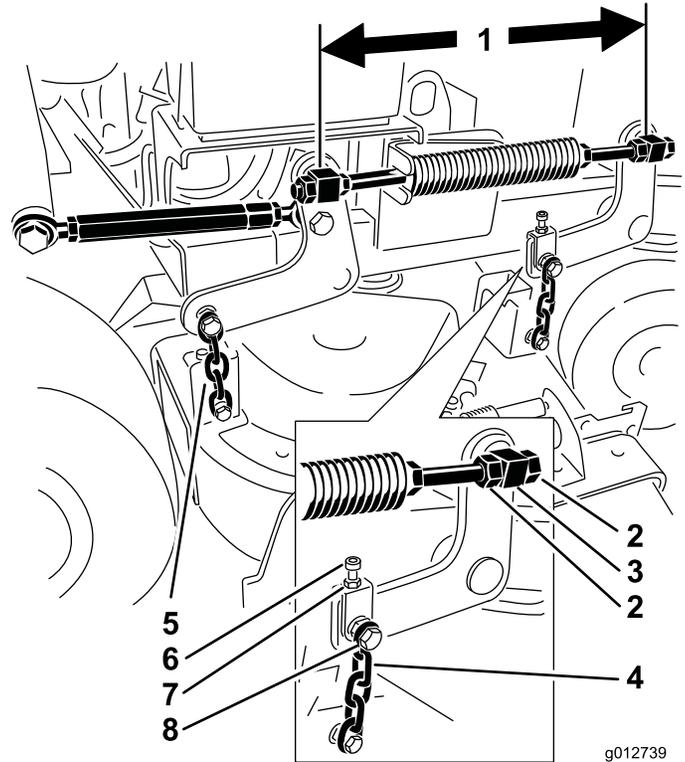

Figure 84
6. Check the distance between the swivels, measure at the center of the swivels (center-to-center length) on the threaded rod. This length needs to be 19-1/2 inches (49.5 cm) for 91 cm mower decks and 17-3/16 inches (43.7 cm) for 102 cm mower decks (Figure 84).
9. Use the jam nuts at the front swivel to adjust the length between front and rear swivels on that side (Figure 84).
11. Use the adjustment bolt to get equal tension on both front chains (Figure 84).
5. Loosen the nut on the upper chain bolt and the jam nut on the adjustment bolt (Figure 84).
- Use the adjustment bolt to achieve 1/4 to 3/8 inch (6 to 10 mm) lower in front at **A** than in the rear at **B** (Figure 84).